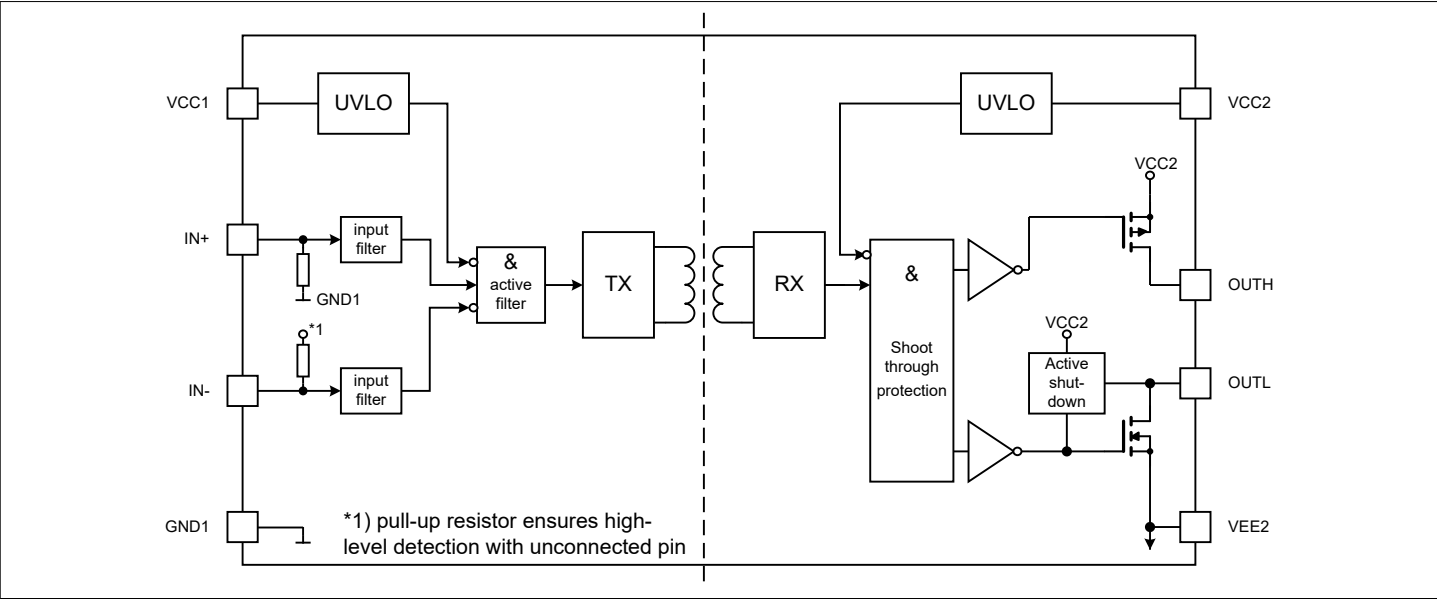

Figure 2 Block diagram
- IN+:** Non-inverted control signal for driver output. An internal filter provides robustness against noise at *IN+*. If left open, an internal weak pull-down resistor pulls this pin to a low state, as shown in Figure 2.
- IN-:** Inverted control signal for driver output. An internal filter provides robustness against noise at *IN-*. If left open, an internal weak pull-up resistor pulls this pin to a high state, as shown in Figure 2.